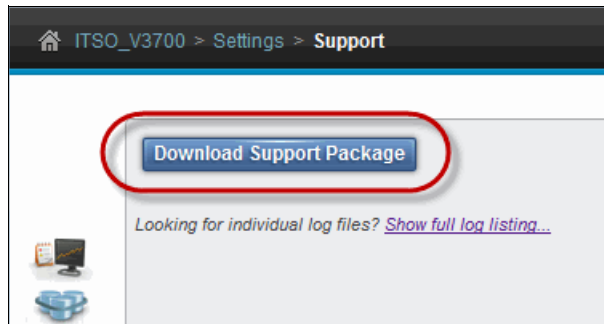

Figure 11-72 Download Support Package
2. Click **Download Support Package**, as shown in Figure 11-72.